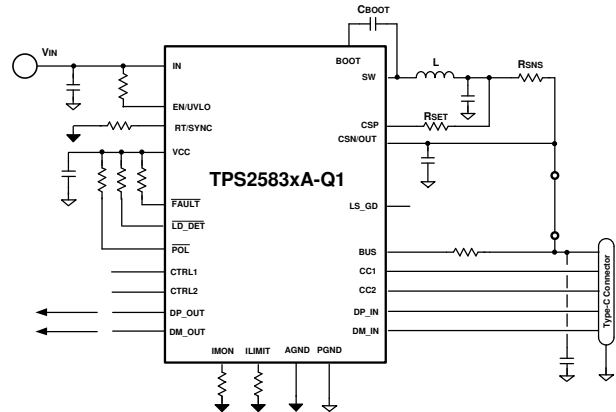

Figure 10-17. TPS2583x-A-Q1 Buck Average Current Limit
- Buck Average Current Limit Figure 10-17: